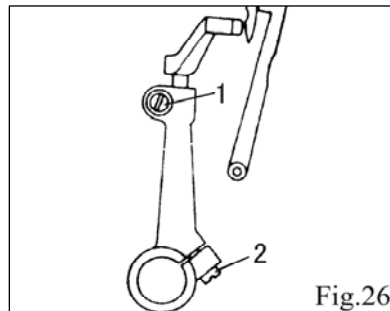

Fig.26
21. POSITION OF LOOPER GUARD (Fig.26)
It is recommended that the height adjustment shall not fall within the area of the looper guard; loosen screws (1) (2) then adjust. The relation between looper guard and the swing looper guard is as represented in Fig.26. The clearance is about 0.1 to 0.2 mm between the needle and looper guard.